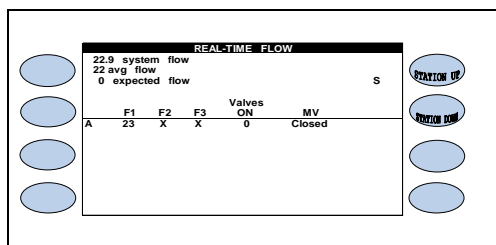

Figure 6.16
4. Press the **CLEAR** Menu key to clear the highlighted station (Figure 6.16).
The REAL-TIME FLOW screen is displayed (Figure 6.16)